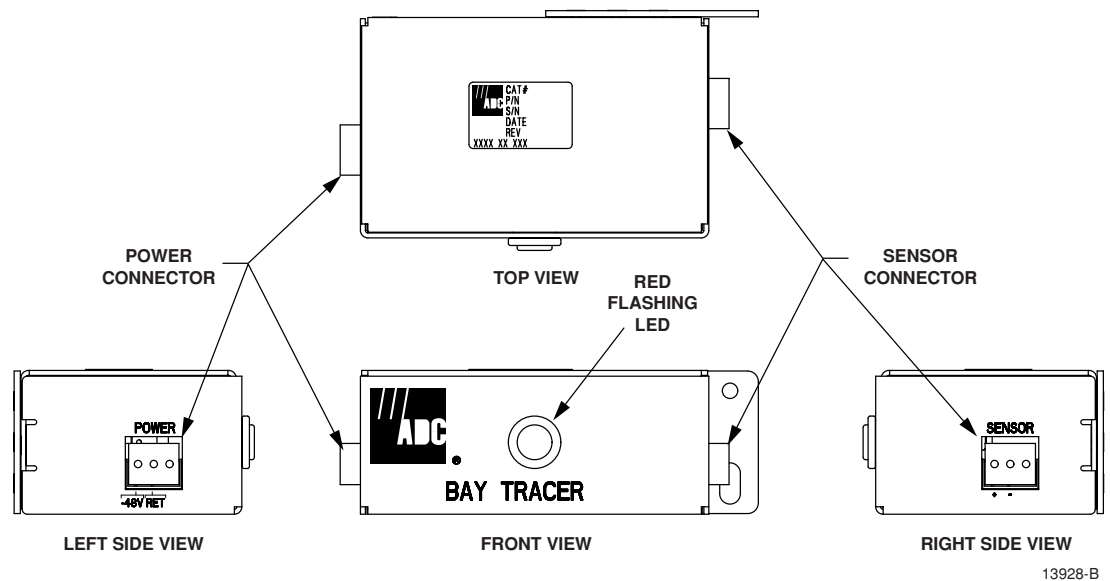

Figure 5. Bay Tracer Electronic Sensor Device Connectors
4. Attach the trailing wires from the inductive pickup coil to the ADC-provided sensor connector making sure that the white conductor is routed to the negative (-) pin on the SENSOR receptacle and the black conductor is routed to the positive (+) pin on the receptacle. See Figure 5.
5. Attach the customer-supplied power feed wires for the electronic sensor device to an unused –48 Vdc branch circuit on the DSX-1 or DSX-3 fuse panel as shown in Figures 3 and 4. Attach the opposite ends of these wires to the ADC-provided power connector on the electronic sensor device making sure that the wire supplying –48 Vdc is routed to the –48V pin on the POWER receptacle and the battery return wire is routed to the RET pin on the receptacle. See Figure 5. A reverse blocking diode is incorporated into the electronic sensor device to prevent damage from a power lead reversal.